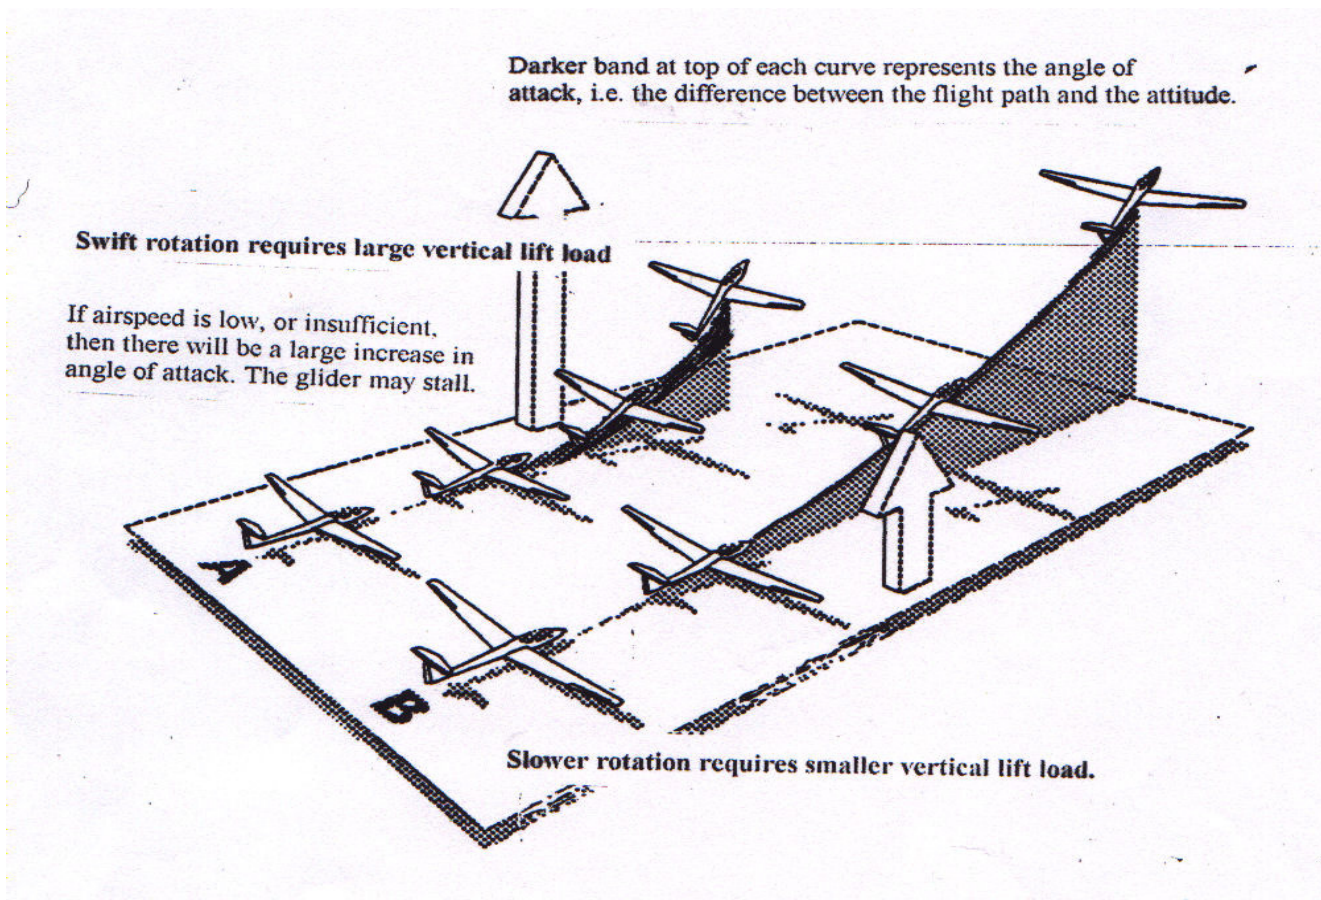

Figure 1: Rotation into the Climb.
The rotation into the full climb requires a vertical lift component, and the angle of attack increases while this is happening. A rotation which is too rapid for the airspeed can result in the critical (stalling) angle of attack being exceeded and the glider departing in an accelerated stall and, possibly, spin. This is worthy of emphasis! Pilots are accustomed to the stall resulting from reducing airspeed. Here the stall may occur despite a steady or increasing airspeed as the stall speed increases faster, and beyond, the airspeed. Figure 1 contrasts the issues involved in swift rotation into the climb (A) and normal rotation (B).